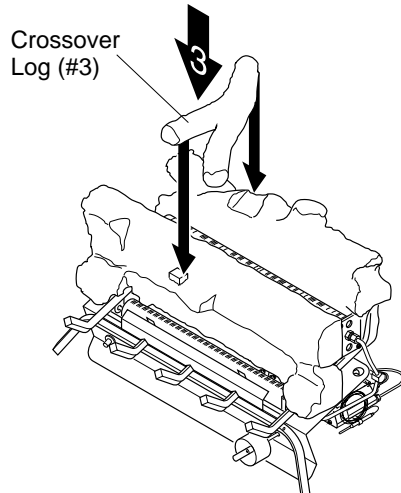

Figure 20 - Installing Crossover Log
3. Place crossover log (#3) into place (see Figure 20). Be sure to place back of crossover log into notch on left side of rear log. The indentation under front right fork of crossover log must rest on rectangular knob of front log.